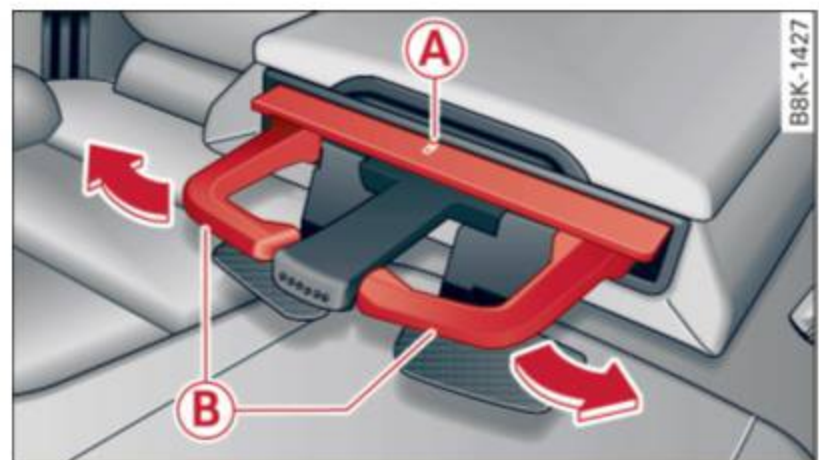

Fig. 61 Rear armrest: rear cupholder
- ▶ To open the cupholder, press on the symbol **! A** ⇒ *fig. 61*.